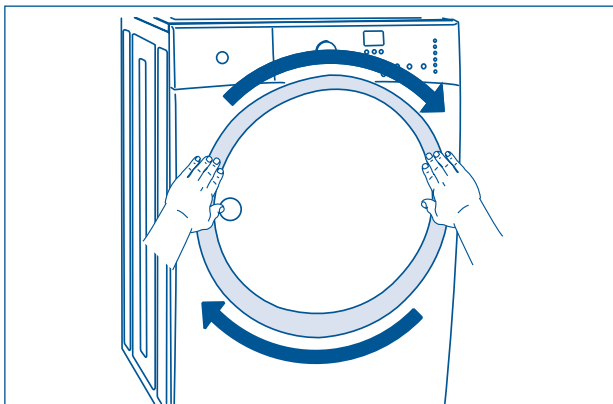

Figure 2-37.
3. Insert the trim ring in the slots and rotate it clockwise approximately  $\frac{3}{4}$ ". (See Figure 2-37)